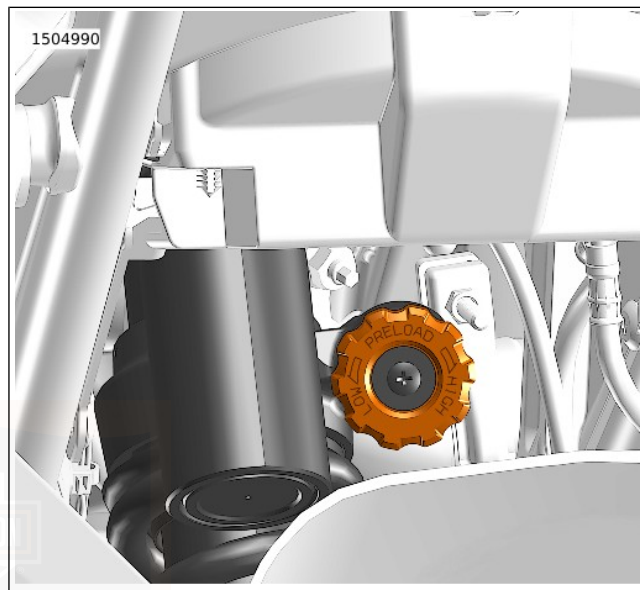

Figure 17. Preload Adjuster
1. See Figure 17. Rotate the preload adjuster knob clockwise in the HIGH direction to increase preload setting, or counterclockwise to decrease preload setting until desired setting is reached.
3. See Figure 17. Adjust preload adjuster knob to the desired number of clicks.